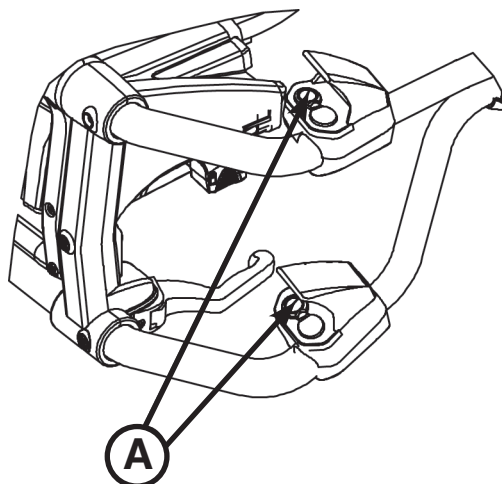
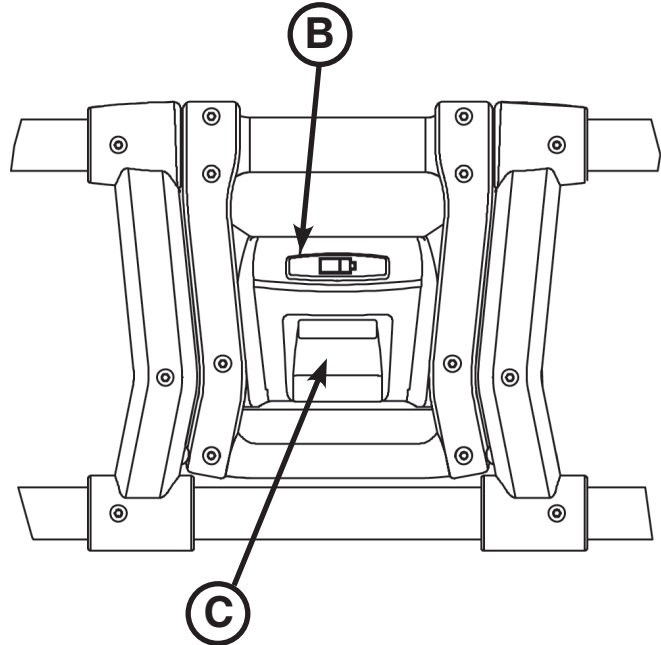

Figure 18: Retract Button - Control Switch
Figure 19: Foot End Control Enclosure
To check the battery power level, press the retract (–) button (A) as shown in Figure 18 on the cot control switch to activate the cot battery LED indicator (B) as shown in “Figure 19: Foot End Control Enclosure” on page 31.
The hour meter (C), located on the foot end control enclosure, indicates the amount of time (HHH.H hours) that the hydraulics have been activated as shown in Figure 19. You can use the hour meter to determine the frequency for preventative maintenance procedures as listed on page 65.